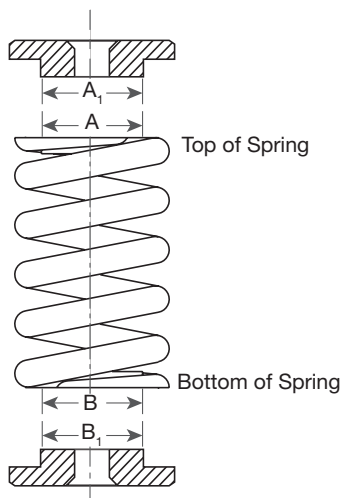

Figure 37: Spring Allowed Tolerance
- The maximum clearance between A and  $A_1$  and between B and  $B_1$  (see Figure 37) is more than:
- .031" (.79 mm) for springs with an inner diameter (ID) of less than 4" (100 mm).